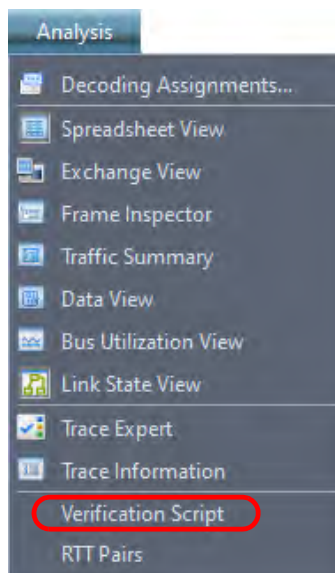

Figure 5.113: Analysis Drop-Down Menu
1. To access the Verification Script Engine, select **Analysis** from the Main Menu. The Analysis drop-down menu appears (Figure 5.113).